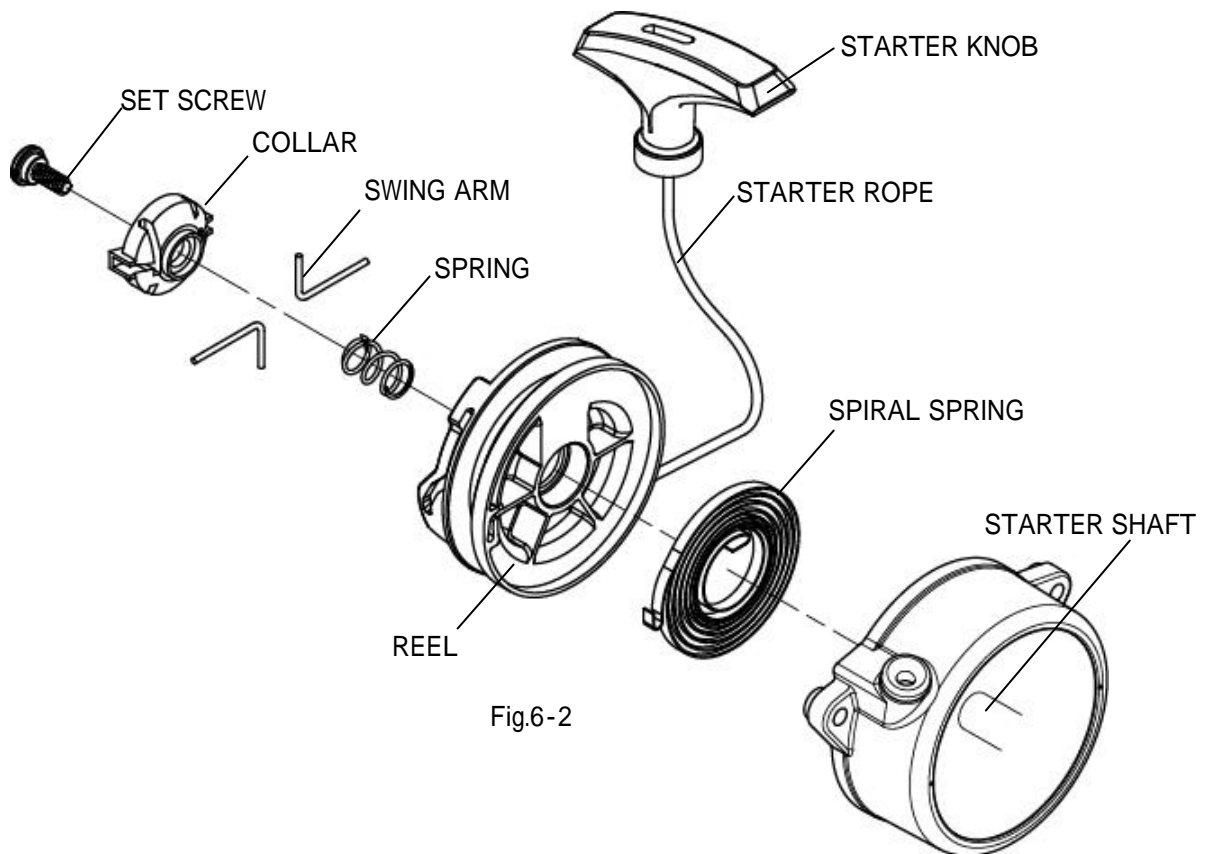
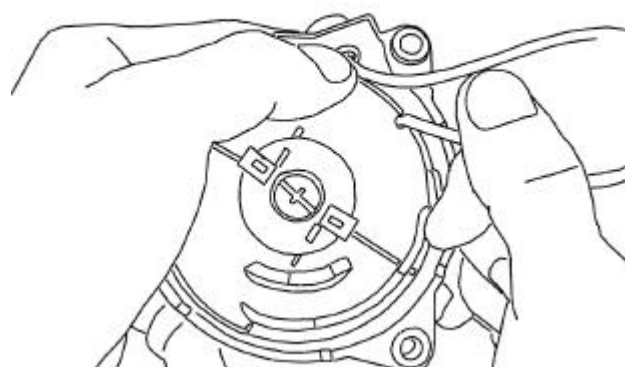

Fig.6-2
Fig.6-5
(3) Remove the parts as shown in Fig.6-2.
(3) Before inserting the REEL in the STARTER CASE, wind the STARTER ROPE around the REEL three turns in the direction of the arrow shown in Fig.6-5, draw out the third turn of the STARTER ROPE from the REEL cut-out, and fit the REEL completely inside the STARTER CASE so that the SPIRAL SPRING inner end can hook on the hook. Then, hold the STARTER ROPE as shown in Fig.6-5, and twist the REEL 4 to 5 turns in the direction of the arrow using the REEL cut-out. After the completion of winding, of the STARTER ROPE hold the REEL tightly to prevent the STARTER ROPE from winding back, pull the STARTER KNOB in order for the SPIRAL ROPE to tighten and then release the STARTER KNOB slowly. Reassemble the parts in reverse order of disassembly shown in Fig.6-2. Tighten the SETSCREW firmly.